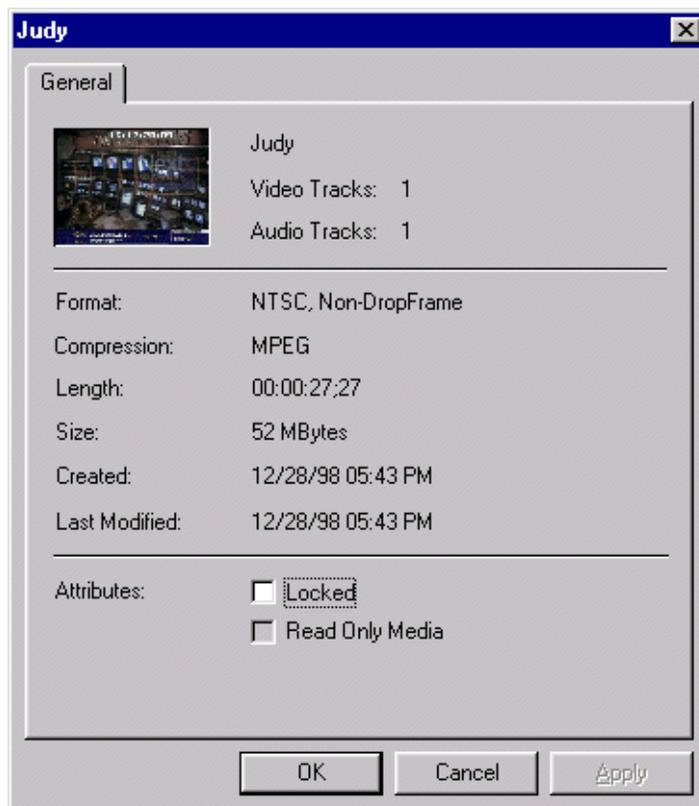

Figure 118. Properties dialog box
2. Choose **Properties** from the **Media** menu or from the shortcut menu with a right-click. You can also double-click the clip or master in the current bin. The Properties dialog box appears (see Figure 118).